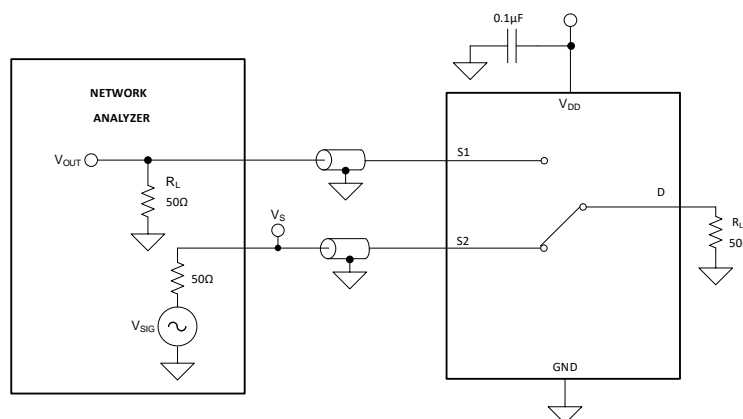

Figure 14. Crosstalk Measurement Setup
Crosstalk is defined as the ratio of the signal at the drain pin (D) of a different channel, when a signal is applied at the source pin (Sx) of an on-channel. Figure 14 shows the setup used to measure, and the equation used to calculate crosstalk.